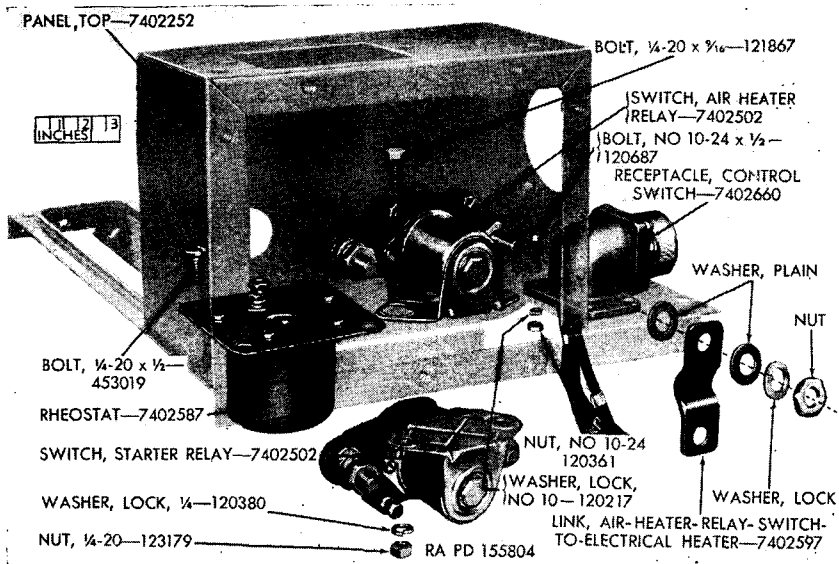

Figure 108. Location of air-heater and starter relays.
- a. Secure rheostat to under-side of top panel with two $\frac{1}{4}$ -20 x $\frac{1}{2}$ screws (fig. 108).
- b. Secure air-heater relay and starter relay to top panel with two $\frac{1}{4}$ -20 x $\frac{3}{16}$ bolts, lock washers, and nuts (fig. 108).
- c. Secure control-switch receptacle to top panel with four No. 10-24 x $\frac{1}{2}$ screws, lock washers, and nuts (fig. 108).
d. Place top panel in position (fig. 108), and secure to baffle support with three $\frac{1}{4}$ -20 x $\frac{1}{2}$ screws and washers and to rear shroud panel with one $\frac{1}{4}$ -20 x $\frac{1}{2}$ screw and lock washer (fig. 109).